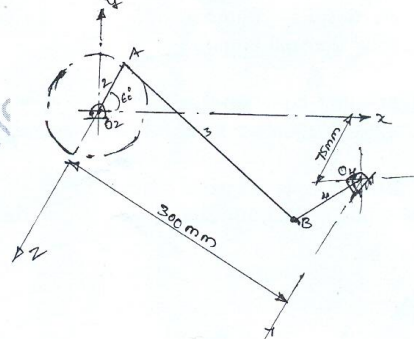

Fig. Q8 (b)
- b. The angular velocity of link 2 of 4 – link RGGR linkage of Fig. Q8(b) is $\omega_2 = 40 \hat{k} \text{ rad/s}$ and is constant. Find the position of all moving links. Using analytical method. (10 Marks)